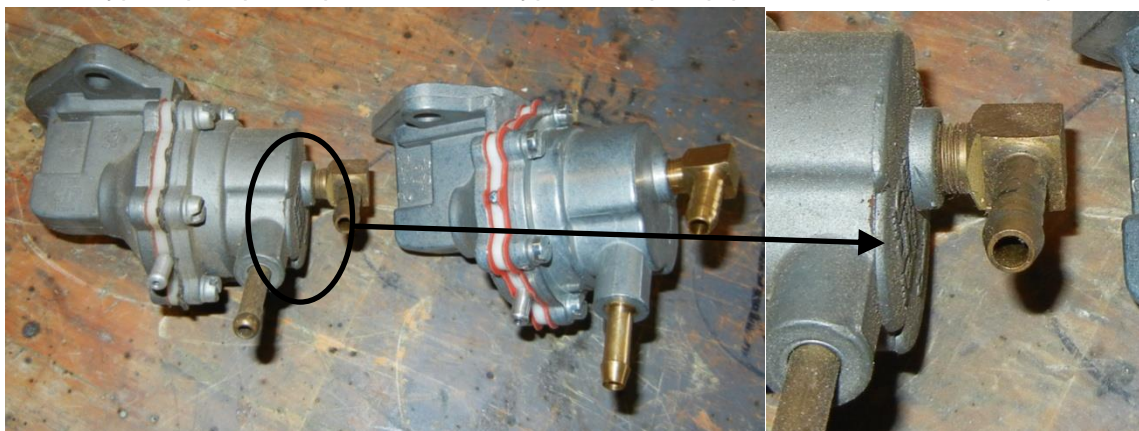

Figure 120 – Fuel Pumps (Type 1 on Left, Type 2 on Right)
- Two different fuel pumps have been used on Jabiru Engines – as shown in Figure 120. Note the cast emblems on the top of the pump on the left – this is a Type 1 pump while the other is a Type 2. Both pumps are driven by pushrods acting from a special lobe of the camshaft, however the Type 2 pump requires a different length pushrod to the Type 1: refer to Table 10 for lengths.